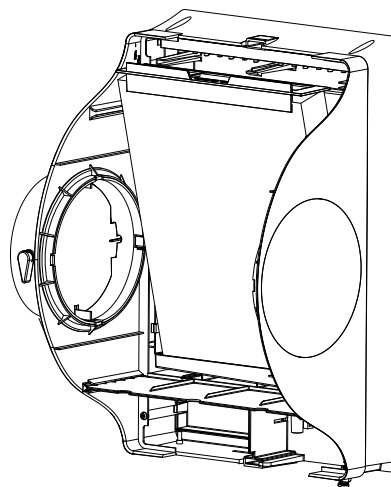

Figure 12
5. To remove the evaporator pad, push the retaining clips and pull the top pad retainer out from the base. The retainer and pad will come out together. The drain pan stays inside the unit. See Figure 12.